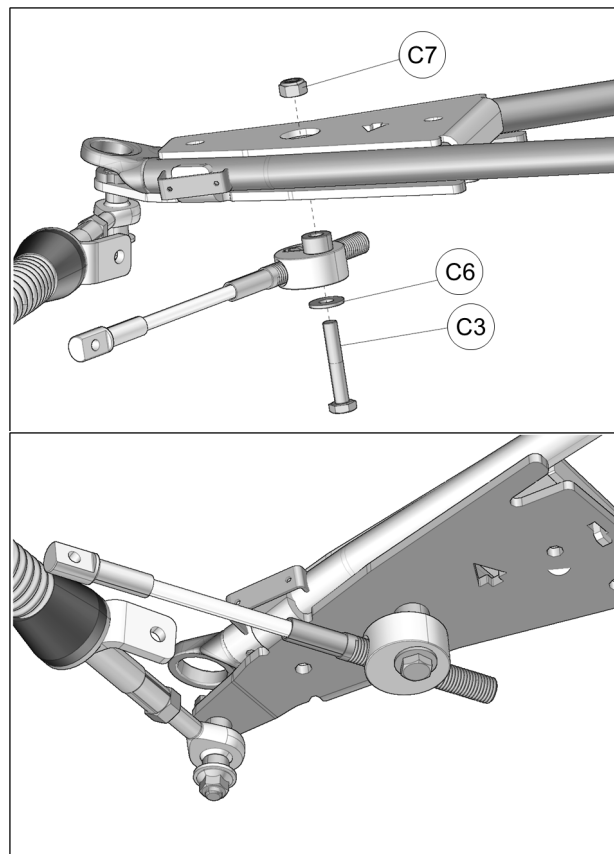

Fig. 25
12. Attach steering limiter cable assembly under anchor bracket using bolt (C3) inserted through bracket cover, washer (C6) and nut (C7). Tighten nut to 50 N•m [37 lb•ft]. Refer to Fig. 25